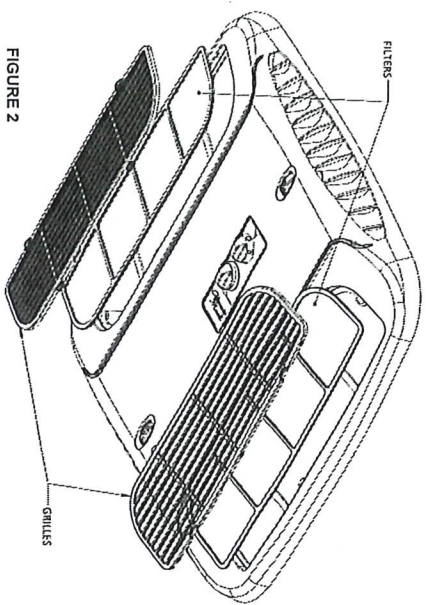

FIGURE 2
3. Re-install the filters and grilles in the ceiling assembly as shown in Figure 2, page 12.